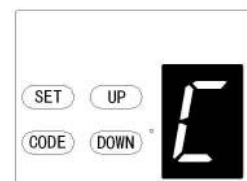

Fig 25
- 24.4 Momentarily press the “Up” button until “C” is displayed on the LED screen. (Fig.25)